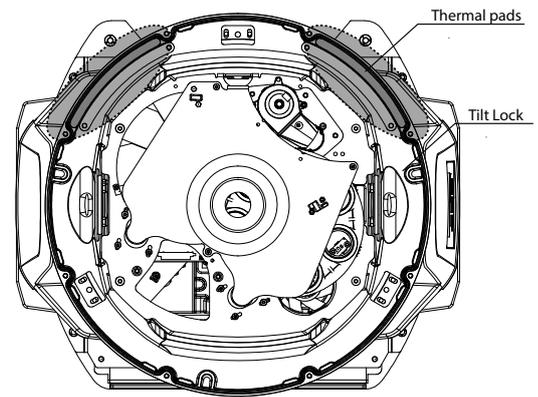

Figure 23 Thermal pads to be replaced
1. Before reinstalling the front ring, the thermal pads have to be replaced (fig. 23). Clean the thermal sockets thoroughly before installing the new ones. For more information on how to replace G-7 BeaSt gobos and to order thermal pads, please contact support@sgmlight.com